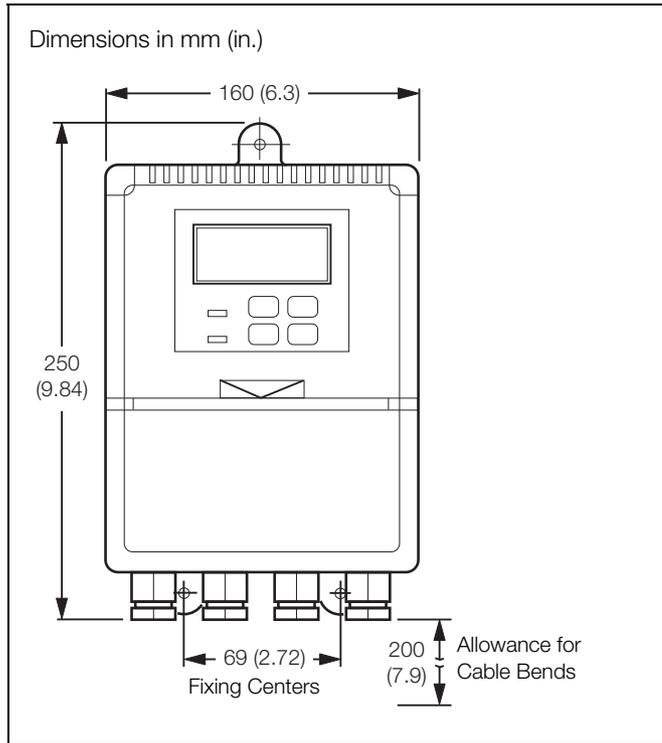

Fig. 3.2 Overall Dimensions
- ① Mark fixing centers (see Fig. 3.2).
- ② Drill suitable holes.
- ③ Secure analyzer to wall using suitable fixings.